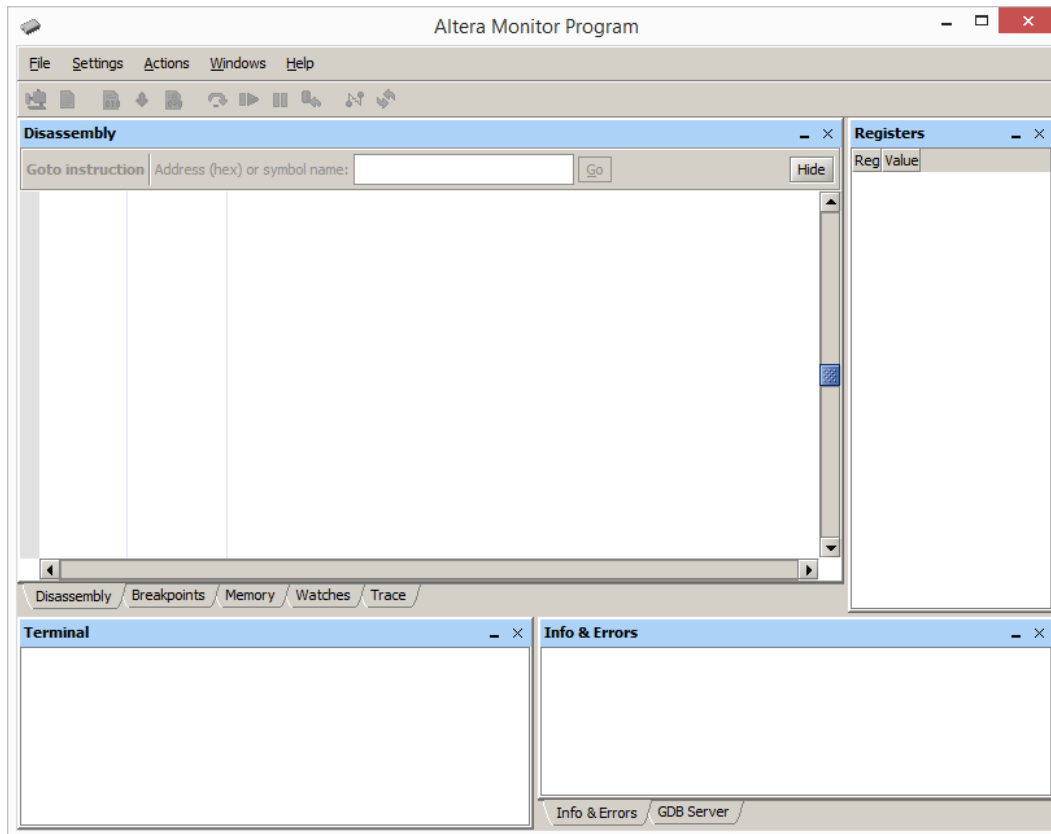

Figure 1: The Altera Monitor Program window.
2. Open the Altera Monitor Program software, which leads to the window in Figure 1.